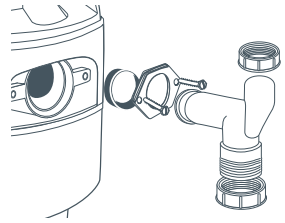

Fig. 7 Connecting the discharge elbow
- 7 Connect the discharge elbow to the lower outlet on the waste disposer (fig. 7).